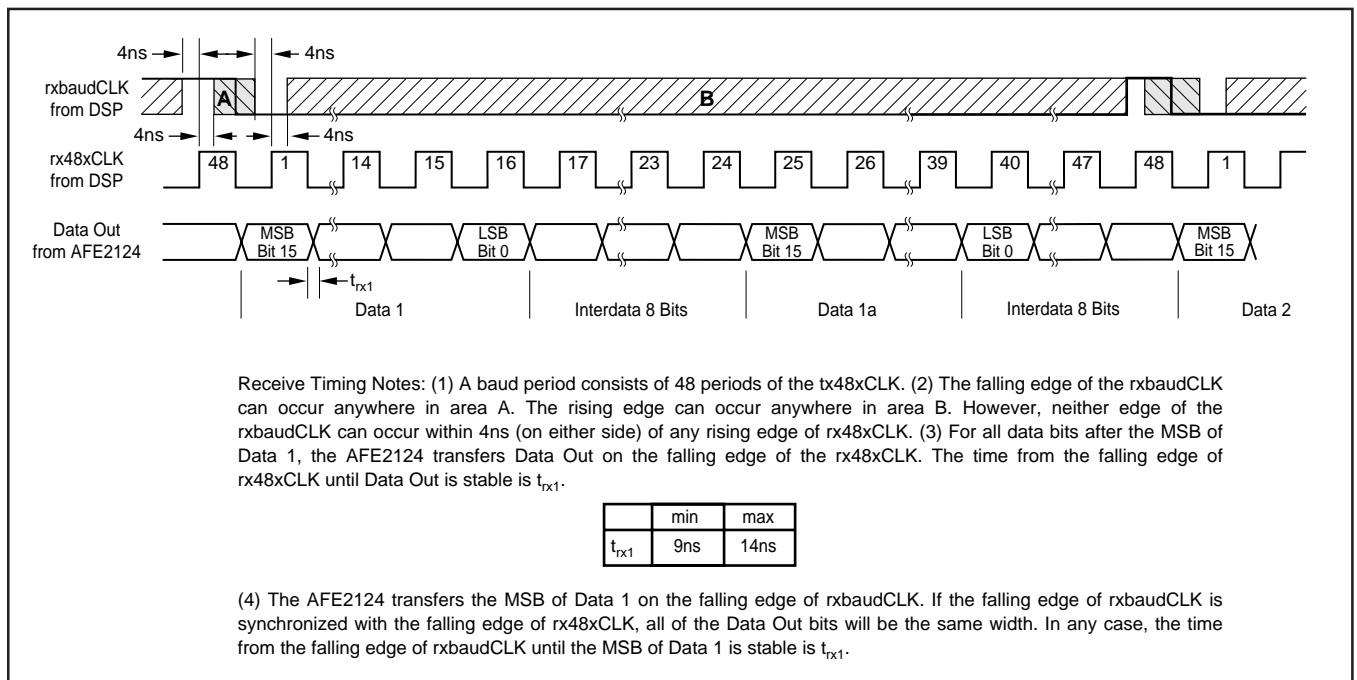

FIGURE 4. Receive Timing Diagram.
**Data Out:** This is the 14-bit A/D converter output data (+2 spare bits) sent from the AFE to the DSP. The 14 bits from the A/D Converter will be the upper bits of the 16-bit word (bits 15-2). The spare bits (1 and 0) will be always be low. Eight additional (interdata) bits follow, which are always high. The data is clocked out on the falling edge of rx48xCLK. The bandwidth of the A/D converter decimation filter is equal to one-half of the symbol rate. The nominal output rate of the A/D converter is one conversion per symbol period. For more flexible post processing, there is a second true A/D conversion available in each symbol period. In Figure 4, the first conversion is shown as Data 1 and the second conversion is shown as Data 1a. It is suggested that rxbaudCLK is used with the rx48xCLK to read Data 1 while Data 1a is ignored. However, either or both outputs may be used for more flexible post-processing.